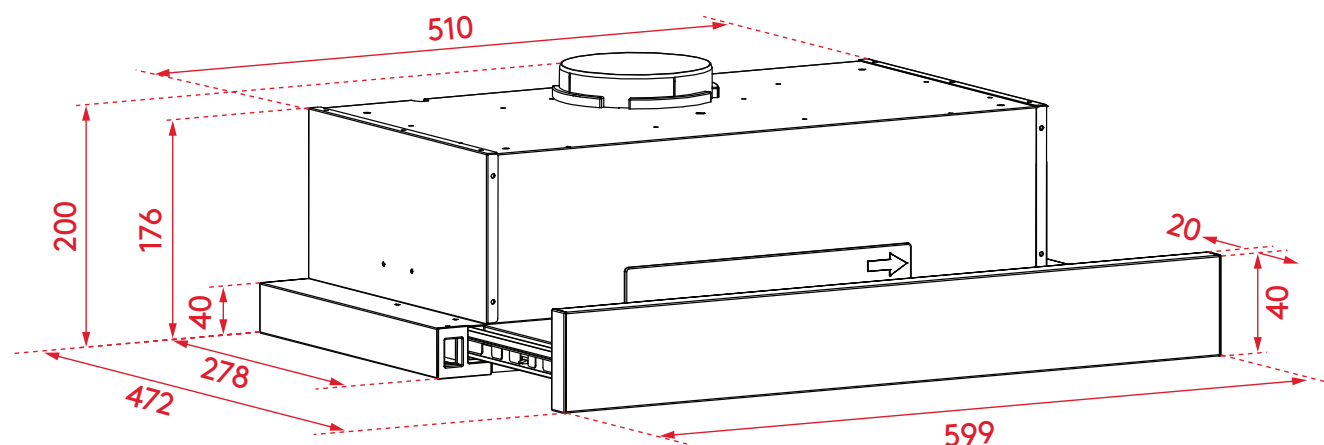

Figure 3A
- Using a jigsaw, create the required cut-out for your rangehood, as per the measurement dimensions in Figure 3A on page 8.